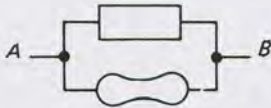

Figure 1.1
2. Things hooked in parallel (Fig. 1.1) have the same voltage across them. Restated, the sum of the "voltage drops" from *A* to